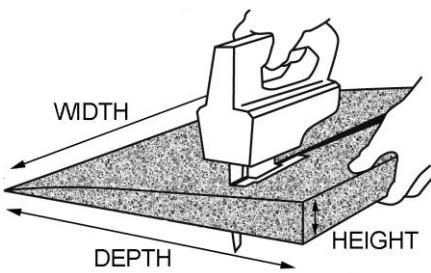

FIG. 1
2. If door threshold is less than the height of the Modular Entry Mat (2½" high), trim mat to the desired height, depth and/or width using a reciprocating saw, razor knife, or hand saw (FIG. 1).